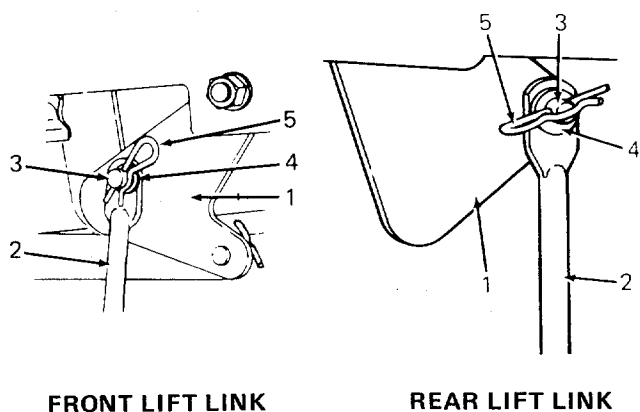

Figure 33
7. Begin by placing the lift handle in position number 1. Refer to Figure 33 and remove the hairpin cotter and flat washer which secure the front lift link to the lift carriage lift pin. Remove the front lift link from the lift carriage lift pin.
12. Place the lift handle in position number 1. Working on side of the deck corresponding to the blade being adjusted, refer to Figure 33 and remove the hairpin cotter and flat washer securing the rear lift link to the lift carriage lift pin. Remove lift link from the lift pin.